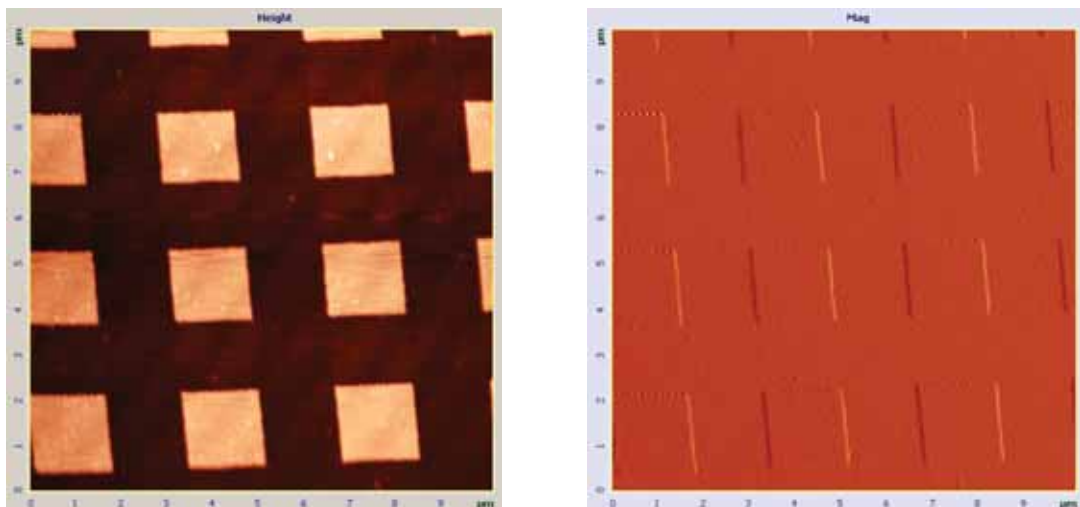

Fig. 8-31. Images of surface topography and the error signal (TQG-1 grating)
- Two images appear in the field of 2D visualization of the scanning data. One of the images is an image of surface topography (signal **Height**), while the other one is the error signal (signal **Mag**) (Fig. 8-31);